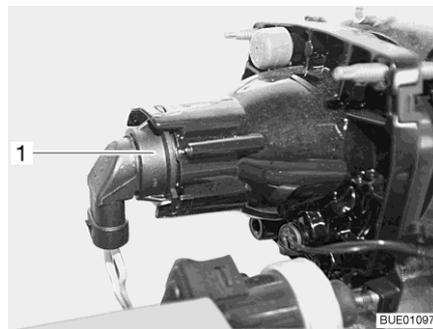

Fig. 163 Low beam/main beam/parking light
- Put your hand behind the lamp holder (Fig. 163,1).